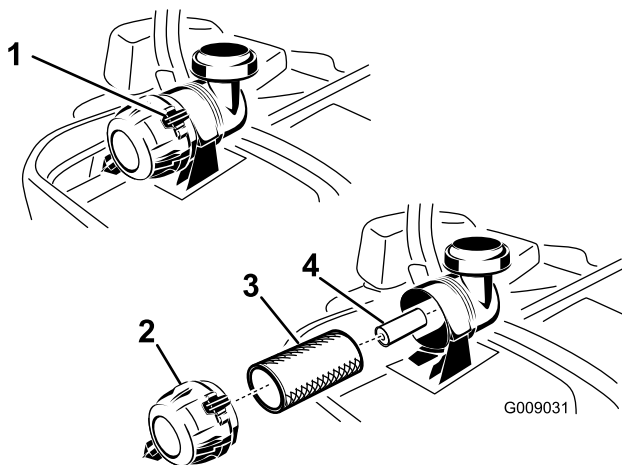

Figure 50
3. Push down to release the retaining clamps on the air cleaner, and pull the air-cleaner cover off the air-cleaner body (Figure 50).
5. Gently slide the primary filter out of the air-cleaner body (Figure 50). Avoid knocking the filter into the side of the body.
1. Do not clean the paper filter, replace it (Figure 50).
2. If the secondary filter is being replaced, carefully slide it into the filter body (Figure 50).
3. Carefully slide the primary filter over the secondary filter (Figure 50).
5. Install the air-cleaner cover with the breather cap down, and rotate so that the retaining clamps lock the cover in place (Figure 50).